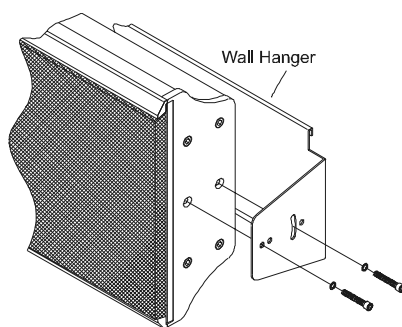

Figure 19
4. Attach the Wall Hanger Bracket to the Loudspeaker using the supplied mounting screws (1/4 x 1-1/2 inch Allen Head) and lock washers, making sure the large rectangular opening on the bracket lines up with the Loudspeaker hookup terminal connections. Refer to figure 19.